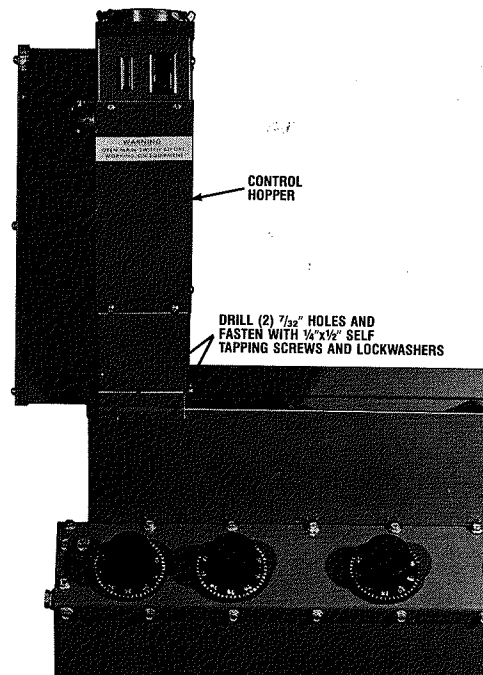

FIGURE 2
(C) Drill two (2) $\frac{7}{32}$ " holes in the front of the metering chamber and fasten the hopper to the metering chamber with $\frac{1}{4}$ "-20 x $\frac{1}{2}$ " self-tapping screws and lockwashers, Figure 2.